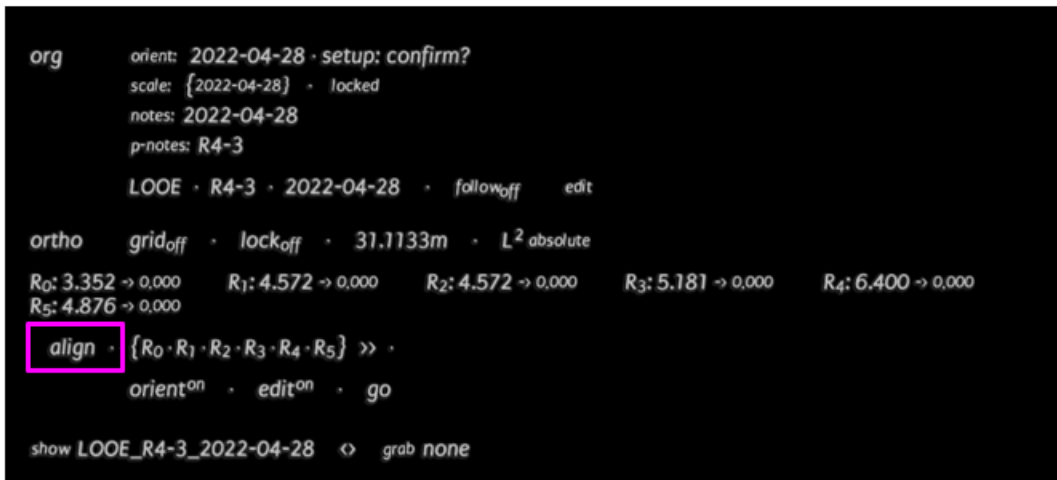

Figure 93. Click `align` as highlighted above to continue orientation setup.
3. The Ortho menu will automatically open. Click `align` (Figure 93).